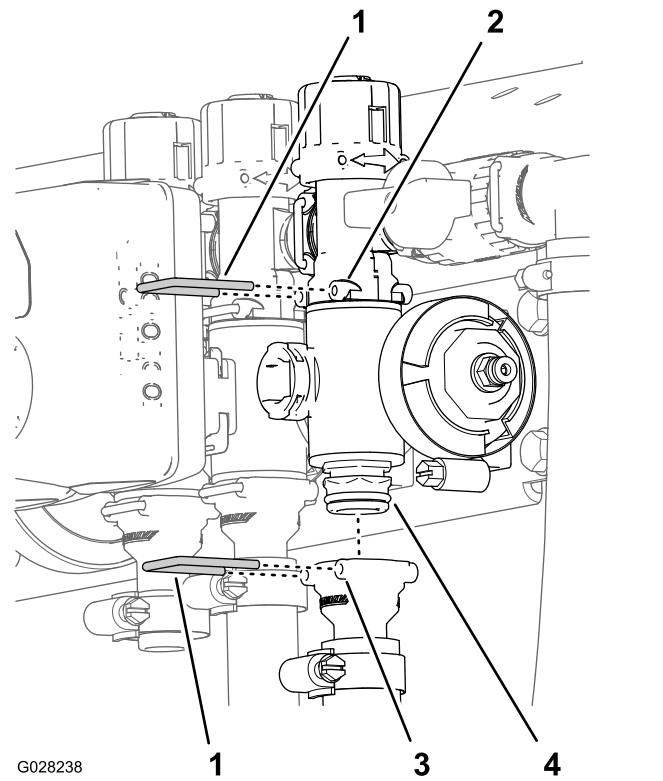

Figure 90
2. Remove the retainers that secure the outlet fitting to the section valve manifold and the valve manifold to the bypass fitting (Figure 90).